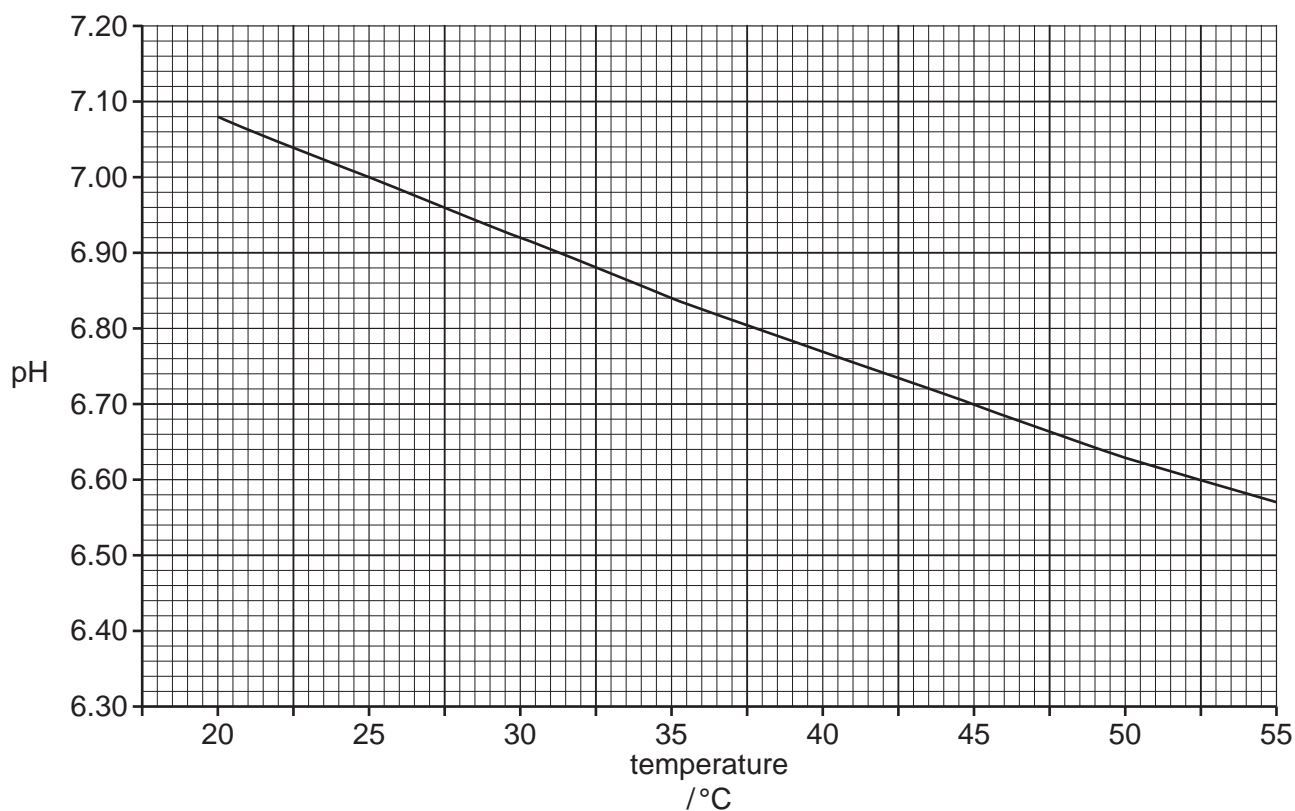

Fig. 2.1
The student records the pH of pure water at different temperatures. A line of best fit from the results of the student's investigation is shown in Fig. 2.1.
- (a) (i) Use Fig. 2.1 to calculate the hydrogen ion concentration of pure water at 45 °C.